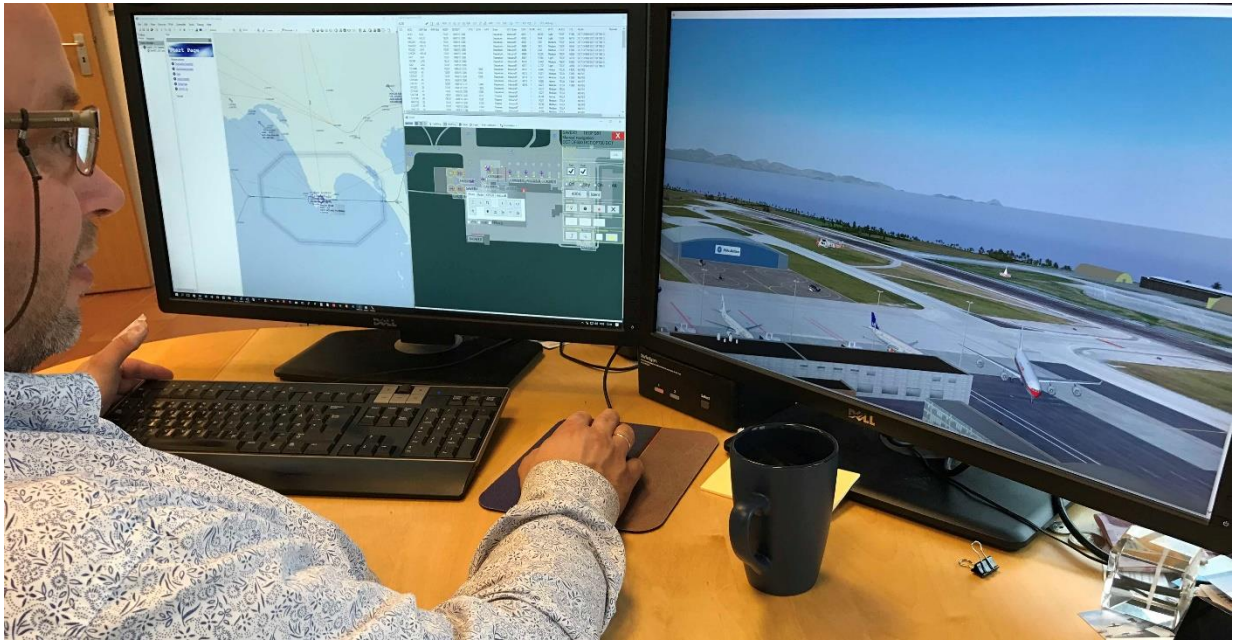

Figure 2: Investigating Airport Operations Using eCoach Designer at Home Office
- Project plans are used as input to a single office desk and converted into eCoach aeronautical data and exercises (see Figure 2).
- The above stored on a laptop with eCoach Designer (see Figure 2).
- a. To the Designer installation (see Figure 2).